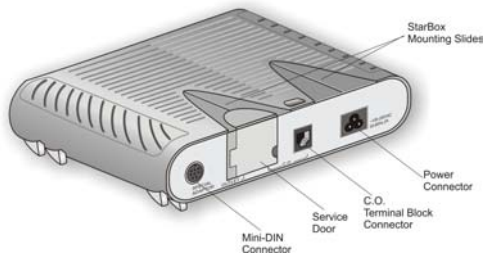

Figure 2.14: Power Unit Rear Panel
- Step 2** Connect the Central Office line to the assigned RJ-11 jack or terminal block as shown in Figures 2.14 and 2.15.